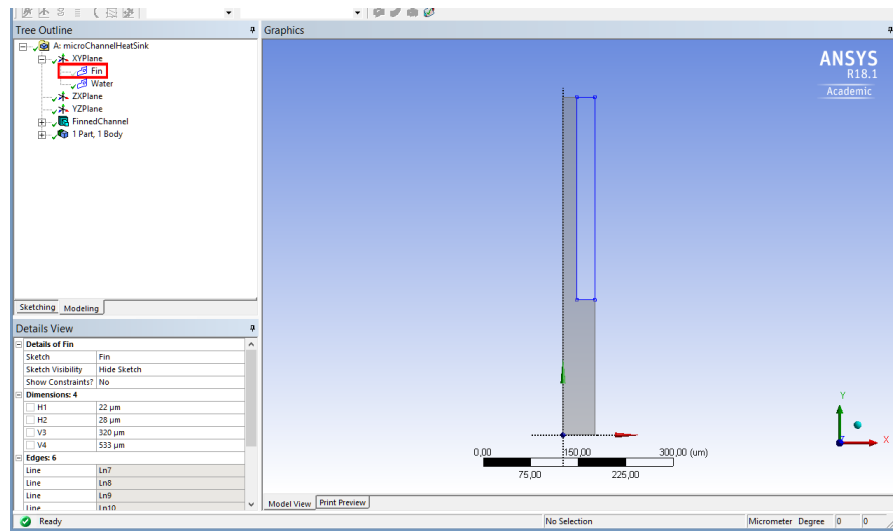

Figure 13: Sketch of water channel.
- With the assistance of the snapping feature, draw the *rectangle* which represents the water channel, as depicted in figure 13 where, for clarity, the fin sketch has been hidden2 (in the left tree, right-click on *Fin* and select *Hide sketch*).